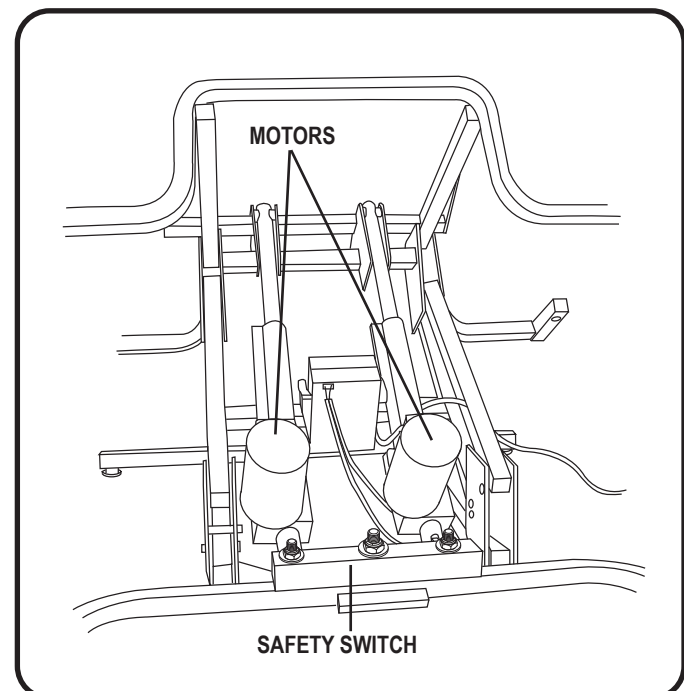

Figure 6.2 In-sync Motors (Timing Corrected)
2. Press the hand control in the UP position until your chair reaches the full lift position. This will reset the motor position and correct the timing (**Fig. 6.2**).